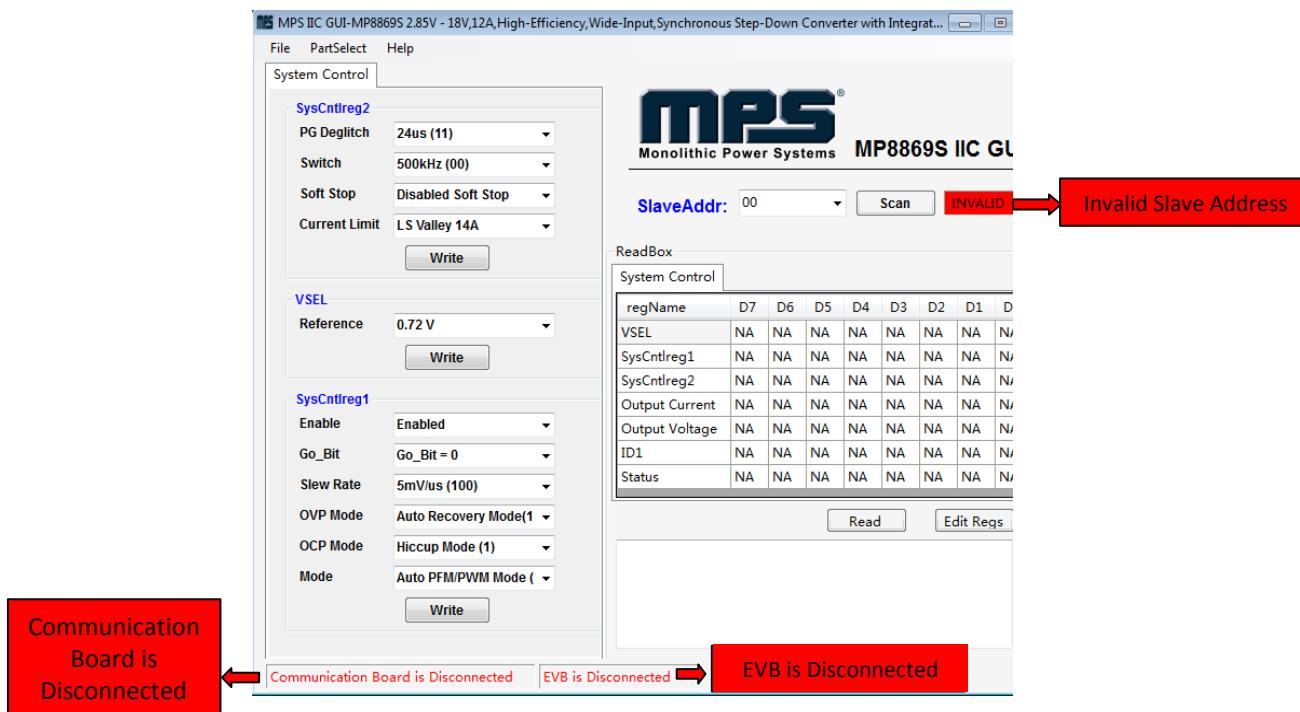

Figure 8: Warning Indicates Unsuccessful Connection – Evaluation Board not Connected
- 1) “EVB is disconnected!” This means that the evaluation board is not connected (see Figure 8).